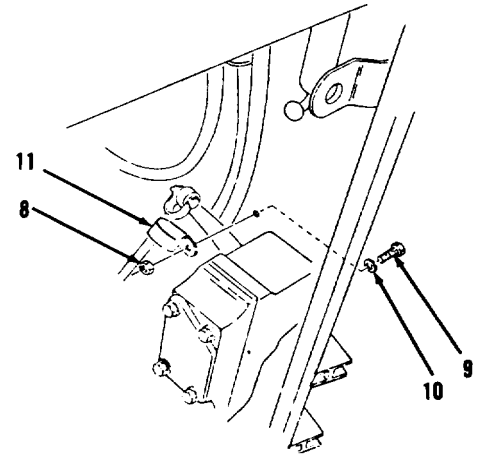

Figure 11-4.
6. Remove nut (8), bolt (9), washer (10) and clip (11, Figure 11-4) from front, right side of engine compartment.